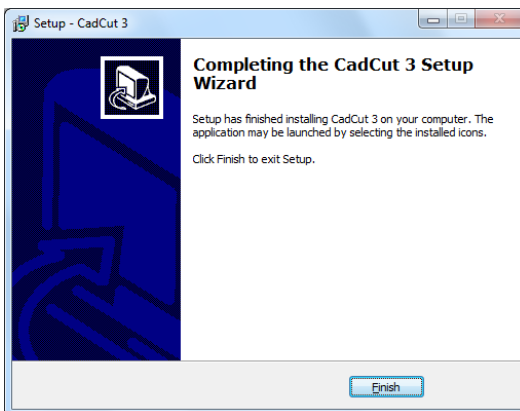

Fig. 16 – installation successfully completed
- To close the installation wizard, click **'Finish'** (Fig. 16 on the next page).